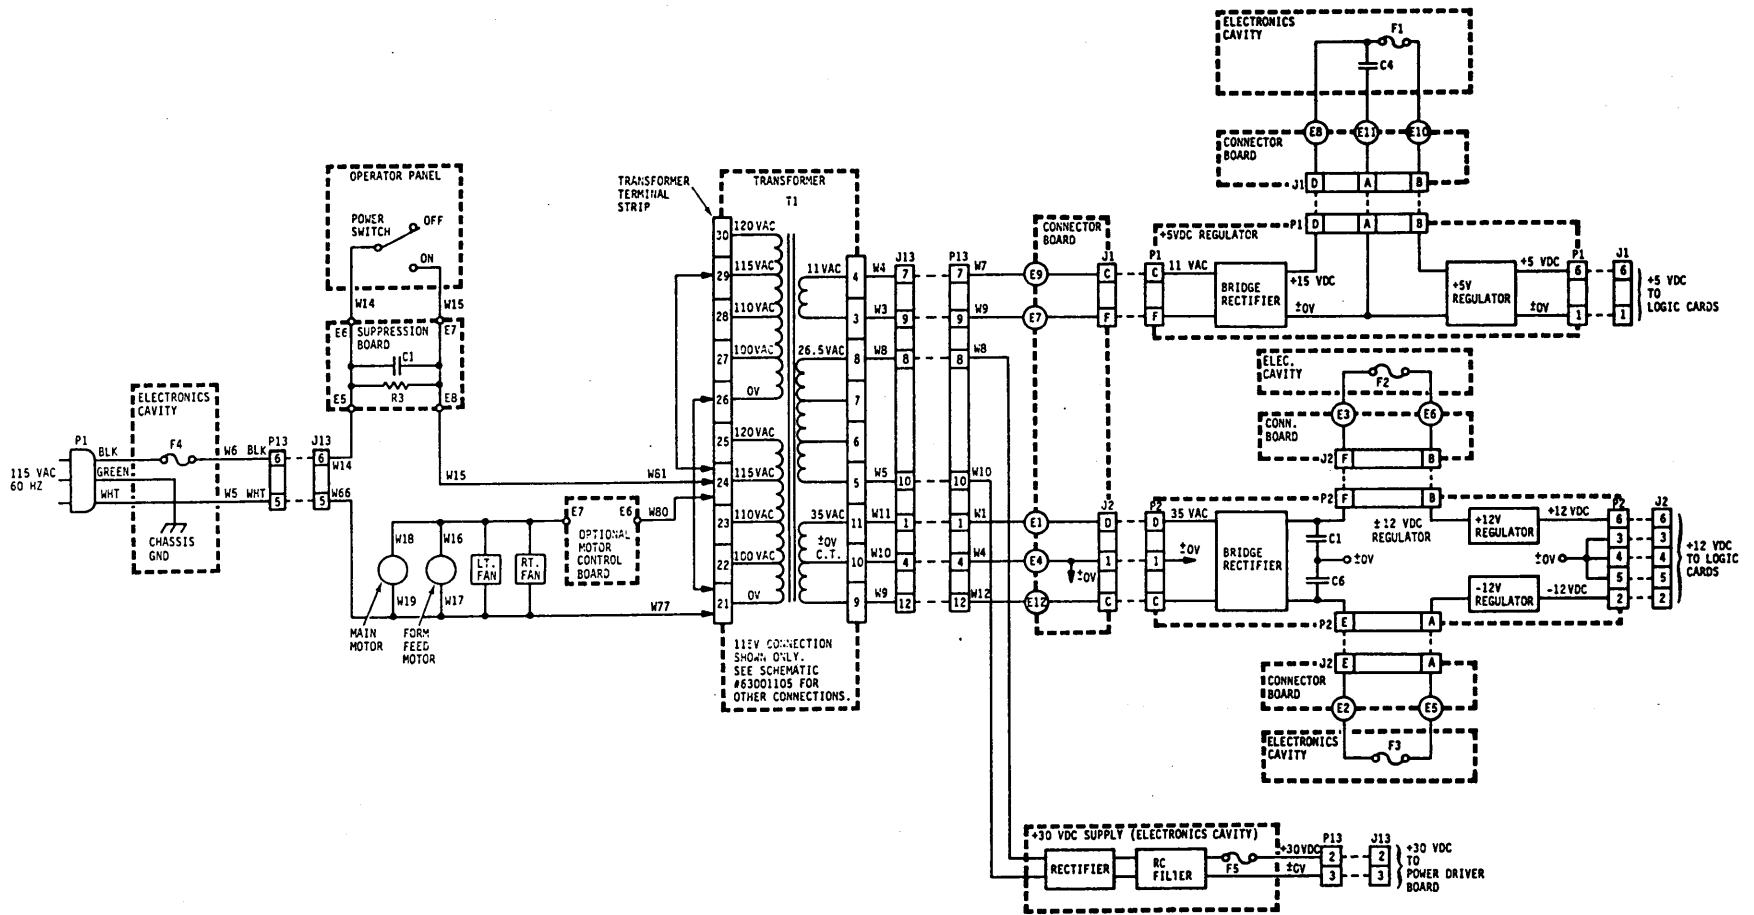

Figure 4-31. POWER DISTRIBUTION DIAGRAM
- (1) A paper empty condition ($\overline{\text{PE}}$ is low).
- (2) The printer is deselected (SEL is low).
- (3) A malfunction in the video circuit ($\overline{\text{LD}}$ is low). If the print head travels from the left limit switch (RTPSW) to the right limit switch (EOPSW) without a single STROBE being generated, then the LD flip-flop is set indicating an error condition.
4.8 POWER SUPPLIES (FIGURE 4-31, SCHEMATICS - SECTION 7)
The complete power distribution circuit for the 101A is shown in Figure 4-31, from the primary input (115 VAC, 60 Hz) to the DC voltages developed by the internal power supplies for driving the logic circuitry.